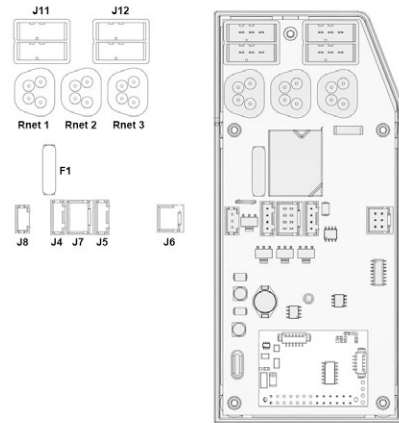

Figure 98. ICS Master Module
5. Connect the AP Elevator cabling to the ICS Master Module. It should be connected to one of the connectors J11 or J12. See fig. 98.